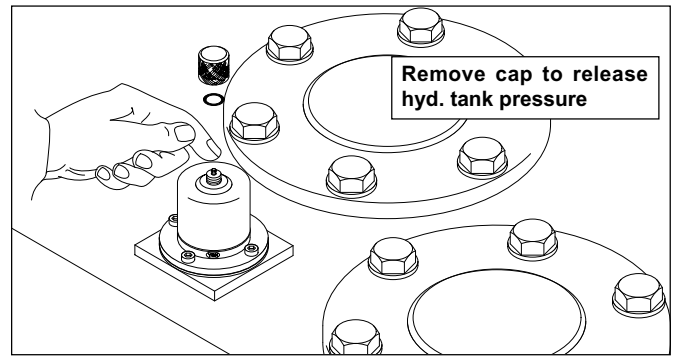

FIGURE 4.30A
1. Release hydraulic tank pressure. See Figure 4.30A.